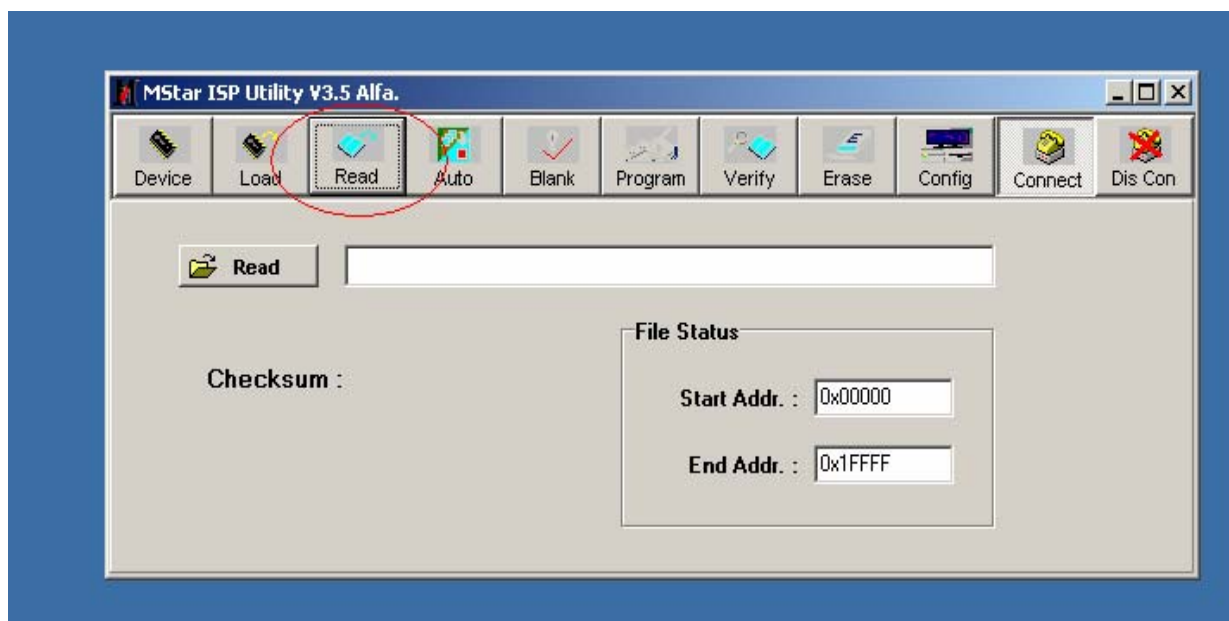
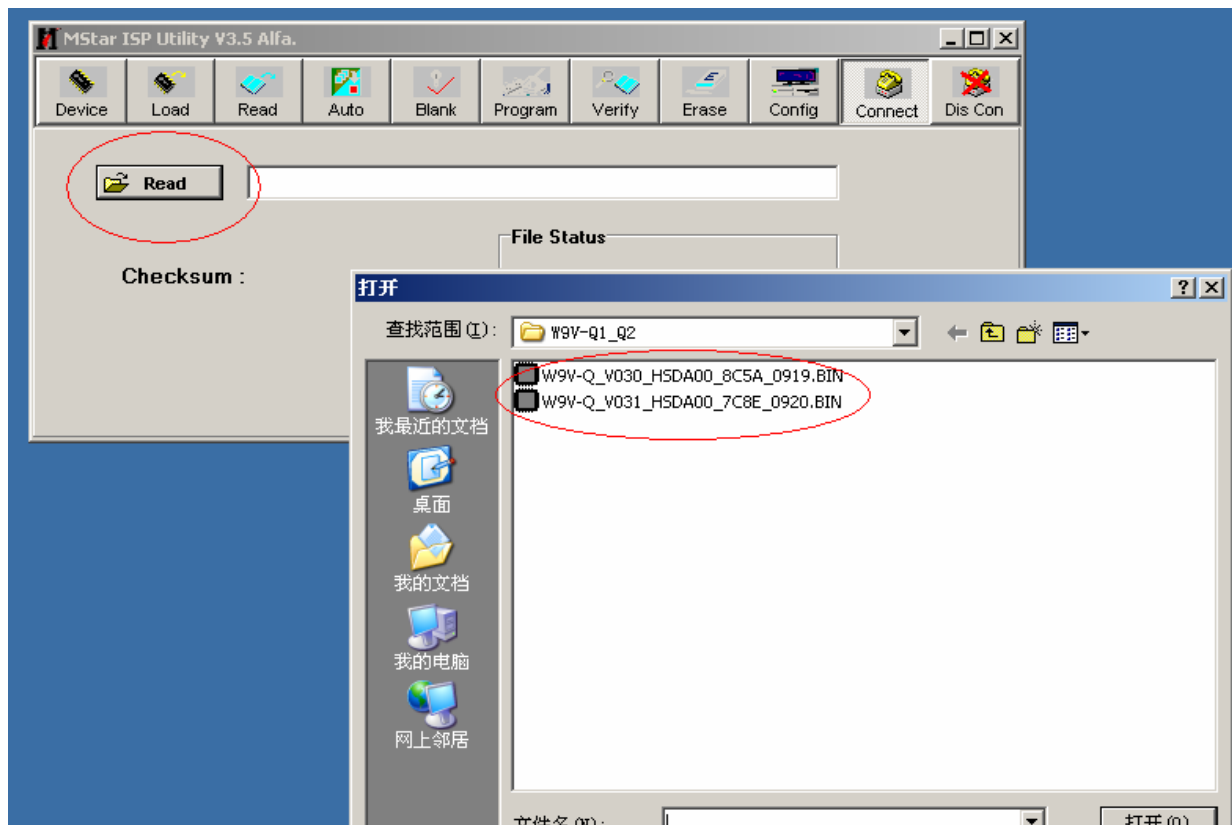

Fig. 1.4
Fig. 1.5
1.4 Single-click the “**Read**” button, you can select the file of BIOS. see Fig 1.4& Fig1.5